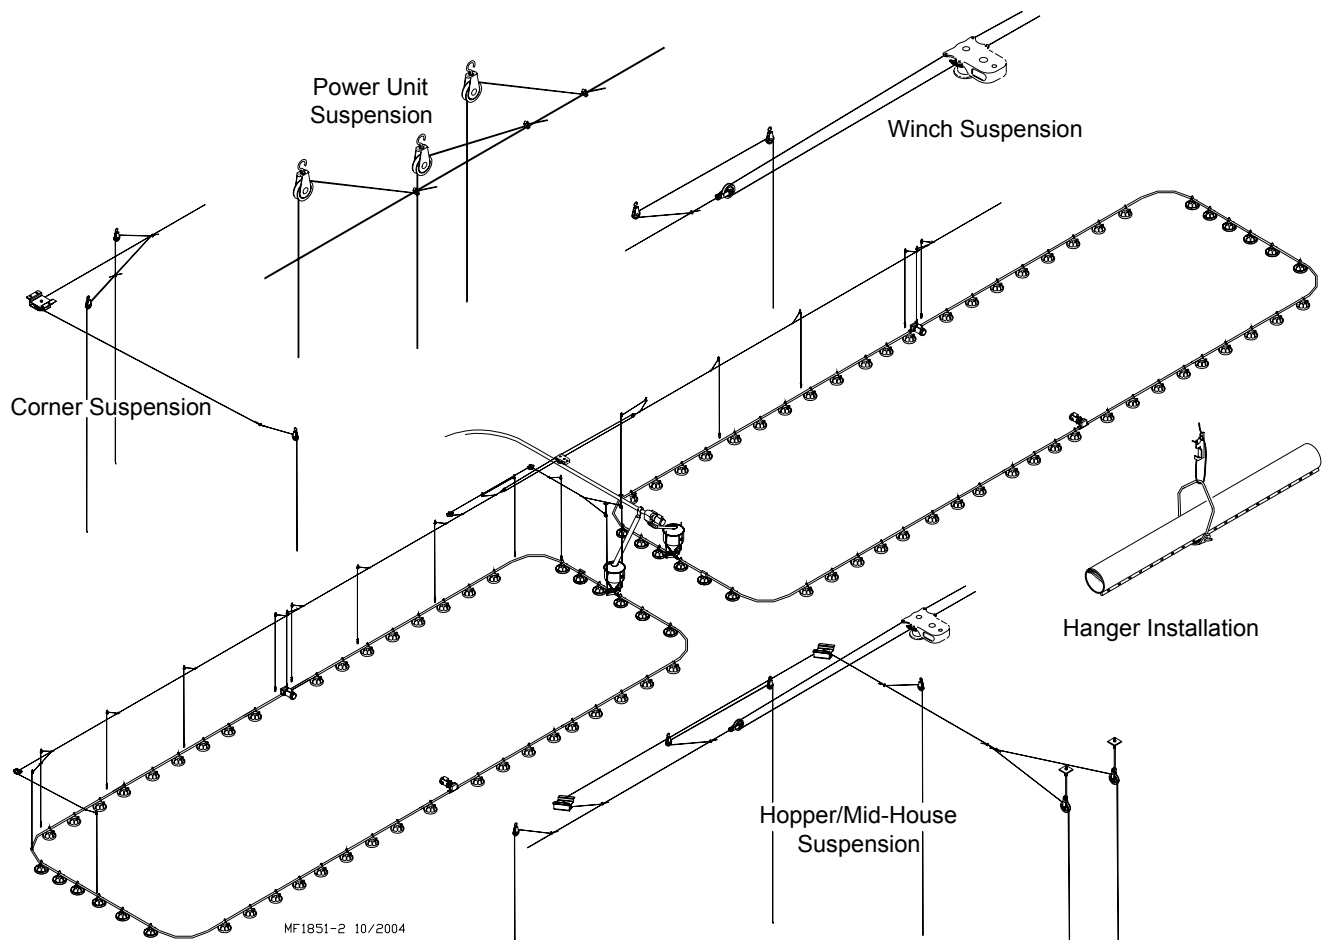

Figure 2. Feeder Suspension.
See Figure 2.
4. Assemble the twist lock collar to the top of the feeder line boot (single or twin) using 1/4-20 x 1/2" bolts and lock nuts (supplied in hardware package). **See Figure 2**